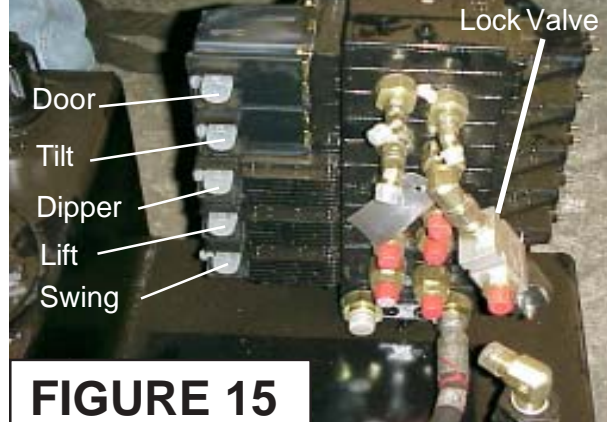

FIGURE 15
6. Terminal Connections. Make sure that each terminal Plug on Valve has had the Gasket installed on it, then Install Swing Terminal and tighten Plug Retaining Screw. Continue this with all 5 plugs starting at one end and go to the next end (See Figure 15)
7. Solenoid Lock Valve Connection. Make certain the Solenoid Lock valve is mounted on the Valve Tilt Port on the bottom Side (See Figure 15). Find the two wires in harness that has eye terminals on them. Connect them to the Solenoid Lock Valve (See Figure 15)